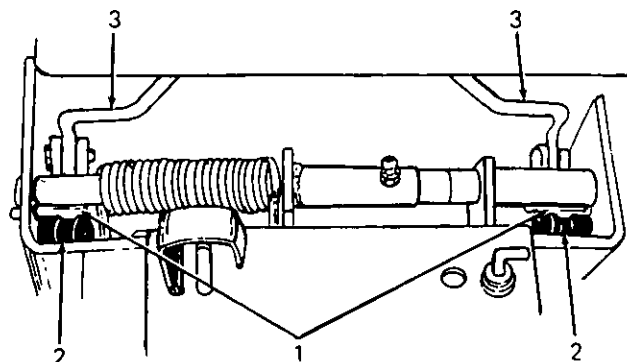

Figure 10
5. Push the quick latch pins into the latch receiver as shown in Figure 10. The quick latch handle will lock up in place when the quick latch pins are installed.